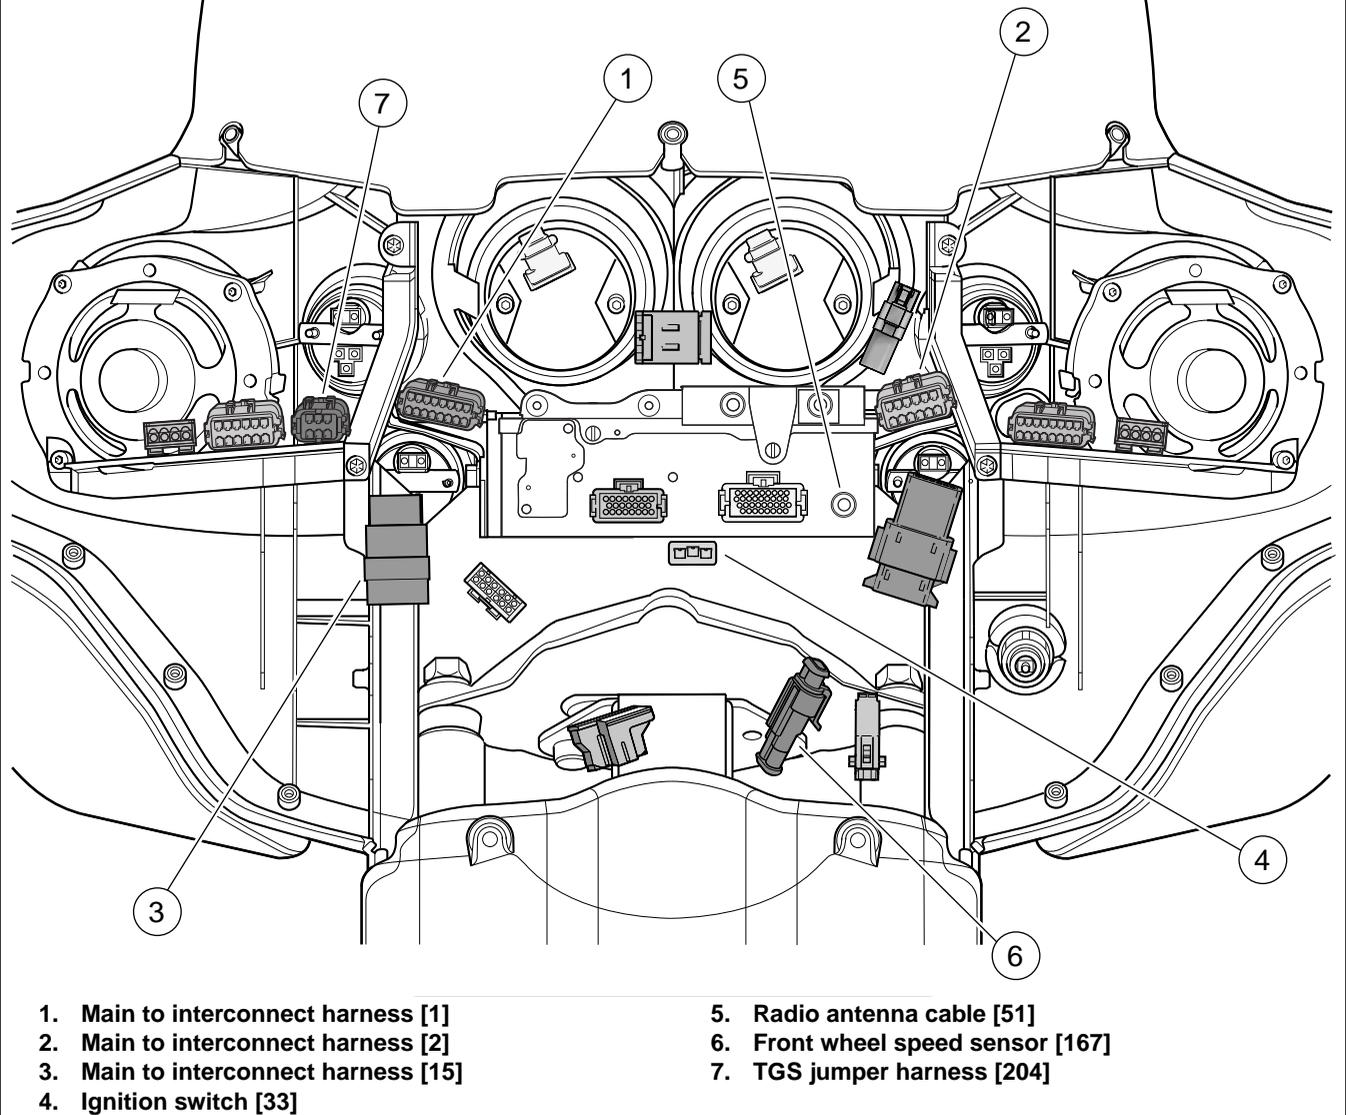

Figure 8-104. Inner Fairing- Main Harness Connectors (FLHX, FLHT/C/U)
3. See Figure 8-104. Disconnect connectors and remove from their retaining devices, if present.
8. See Figure 8-104. Disconnect connectors and remove from their retaining devices, if present.